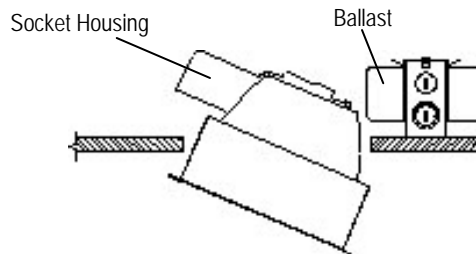

Figure 2
2. Insert reflector through the ceiling opening making sure to tilt and rock reflector (see Figure 2). Push reflector upward until the flange is flush with the ceiling. **NOTE - For best results, position socket housing opposite the ballast.**